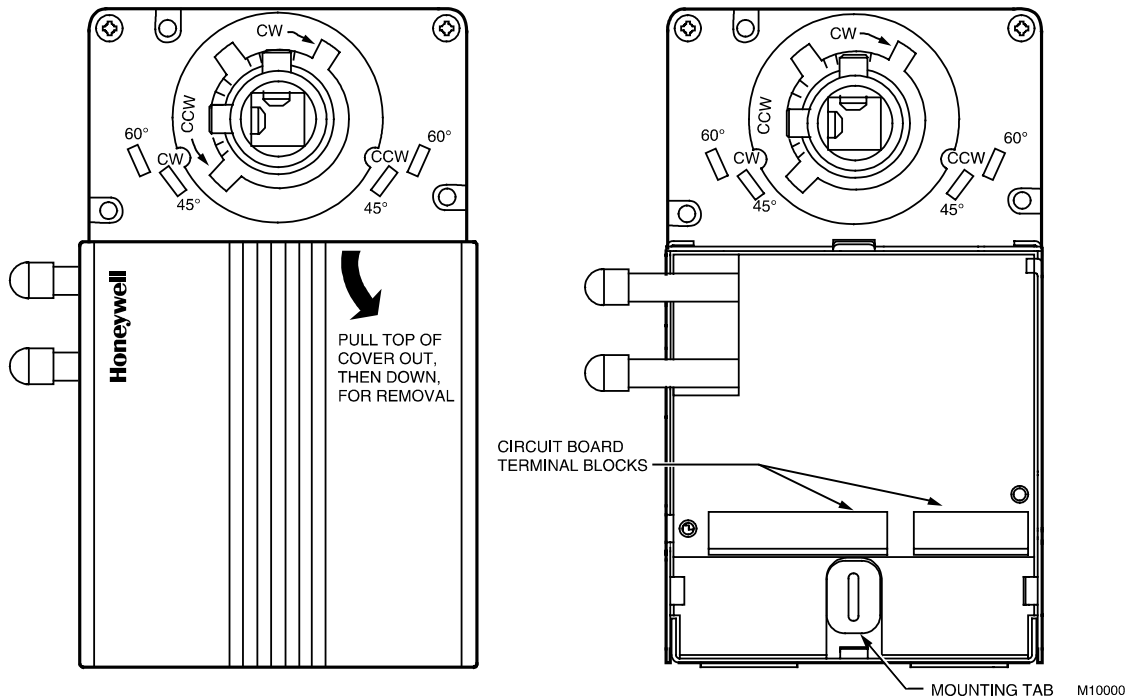

Fig. 3. Cover removal and mounting tab/terminal block access.
The W7751H assembly is field-mounted to the VAV box damper shaft, the same as used for a typical actuator. The actuator on the W7751H opens or closes a damper by driving the damper shaft in either the counterclockwise (CCW) or clockwise (CW) direction. The actuator has a mounting tab on the bottom for securing to a VAV box damper. The mounting tab is accessible through a hole in the controller with its cover removed (see Fig. 3). The tab is sized for a 1/4-in. (6-mm) self-tapping sheet metal screw (not included).